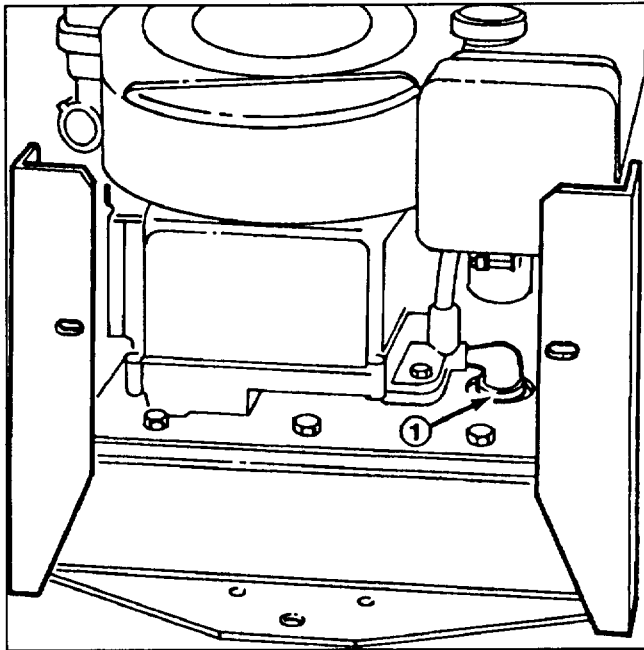

Figure 15
- B. Turn engine off and place drain pan below drain plug (Fig. 15). Support drain pipe with pipe wrench, remove drain plug, and allow all oil to flow into drain pan. Install drain plug after oil stops flowing.
**Note:** To ease removal of drain plug, use a 3/8" drive extension with the square drive socket over the plug and turn with a crescent wrench (Fig. 15, Insert).